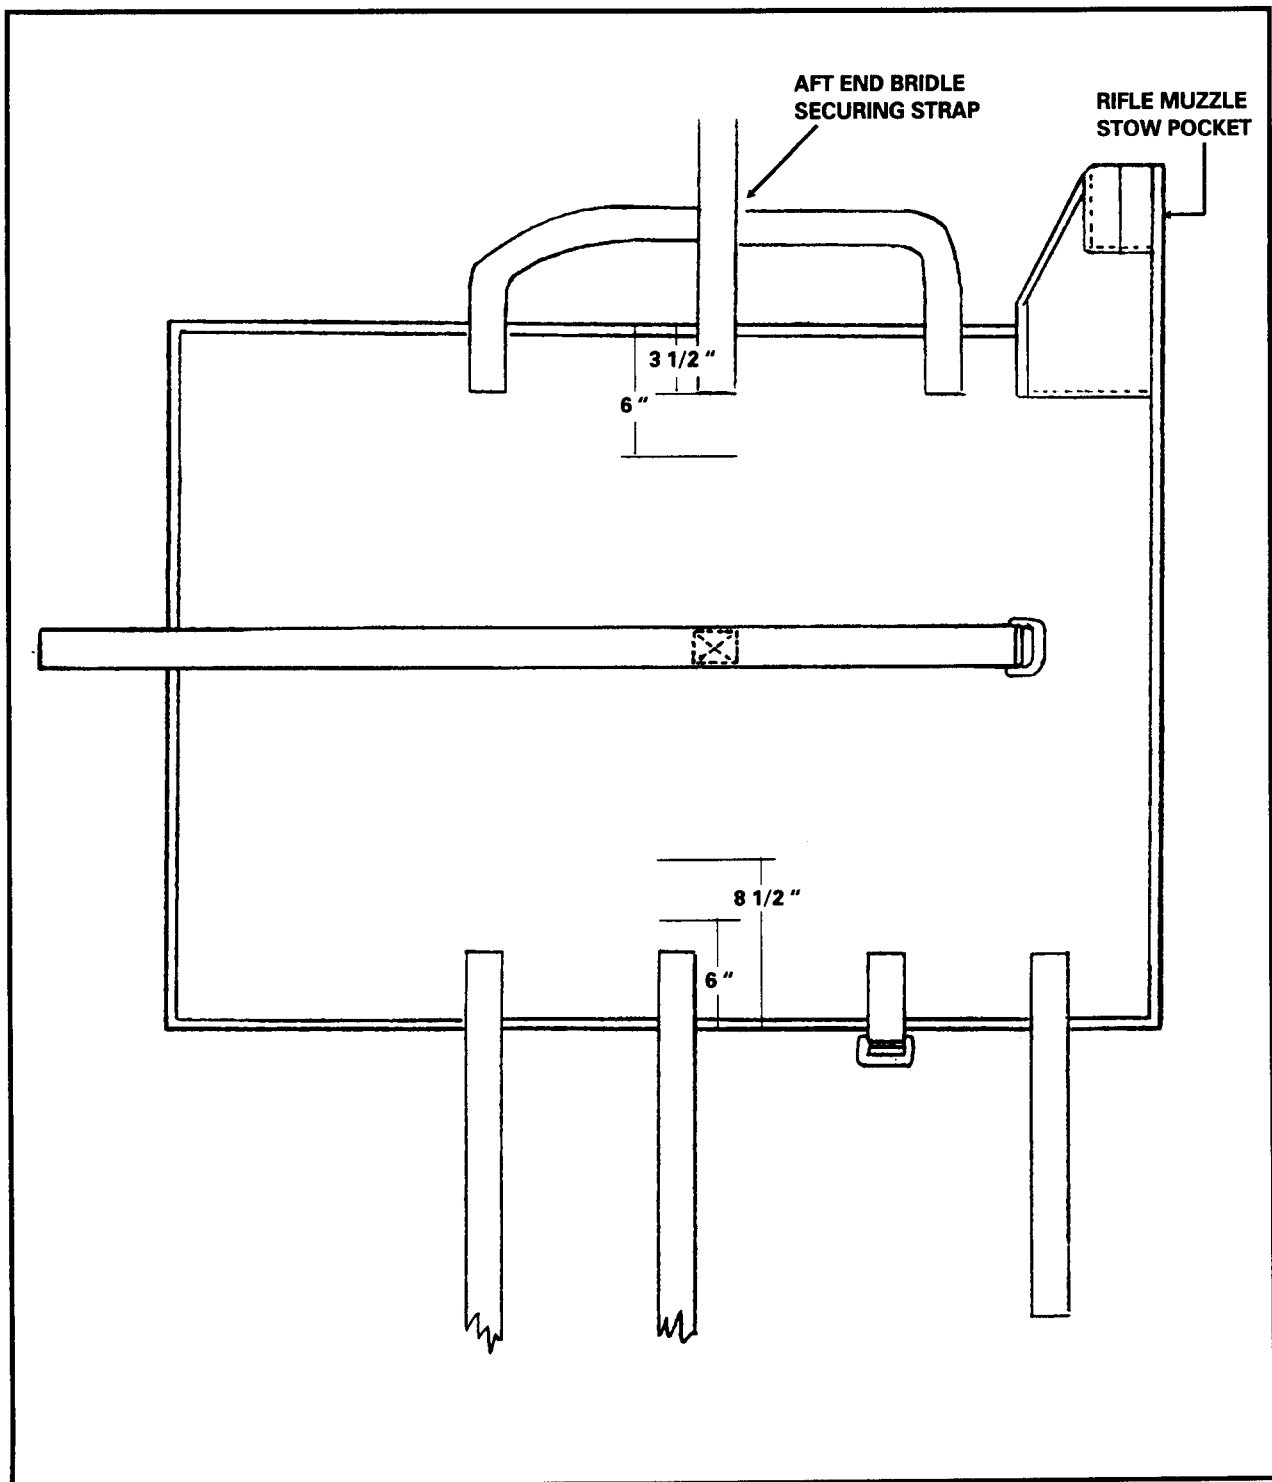

Figure 12-63. Stitching removed and DMJP markings.
c. Locate the point where the aft end bridle securing strap crosses the U-shaped portion and is sewn. Cut and remove this stitching, being careful to not damage the straps (Figure 12-63, page 12-76).
d. From this side of the DMJP, measure and make two marks at 3 1/2 inches and 6 inches. From the other side of the DMJP, measure and mark at 6 inches and 8 1/2 inches (Figure 12-63, page 12-76).